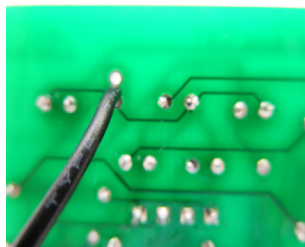

Fig.8
8. Solder the black wire lead of the 9V battery connector from the back side of the PCB into pin 1 of the X1 as per fig.8.